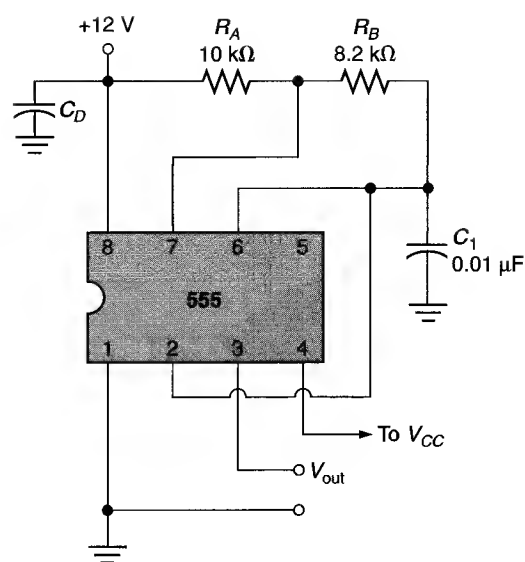

FIGURE 19.66
33. Calculate the operating frequency, duty cycle, and pulse-width values for the free-running multivibrator in Figure 19.66.
35. The value of R_B in Figure 19.66 is increased to $10 \text{ k}\Omega$. Recalculate the operating frequency, duty cycle, and pulse-width values for the circuit.